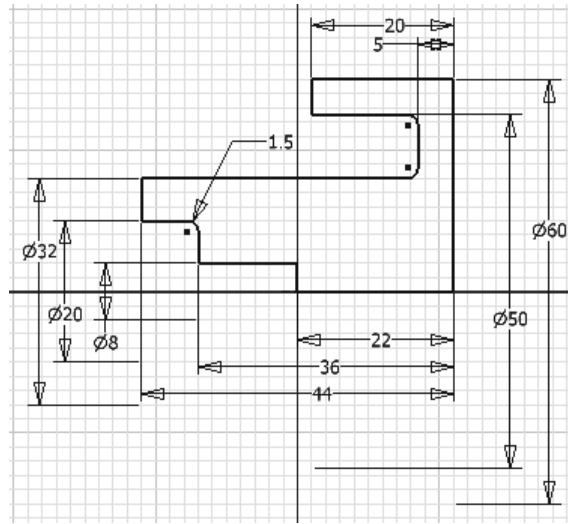

Figure 3-52 Fully dimensioned sketch after adding fillets
2. Similarly, select lines 4 and 5 as well as lines 7 and 8 to add fillets between these lines. Exit the **2D Fillet** dialog box. The final sketch after adding fillets is shown in Figure 3-52.